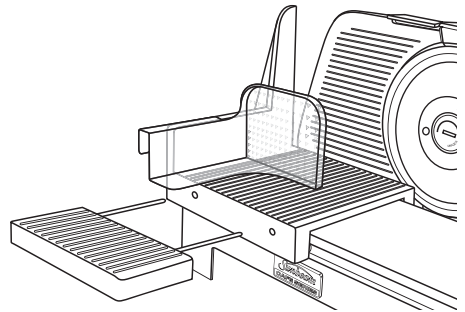

Figure 4
- Note:** If the length of the food to be sliced is longer than the sliding guide, connect the extension tray to the sliding food guide, using the 2 hole cutouts on the sliding guide to align and connect the extension tray. See Figure 4.